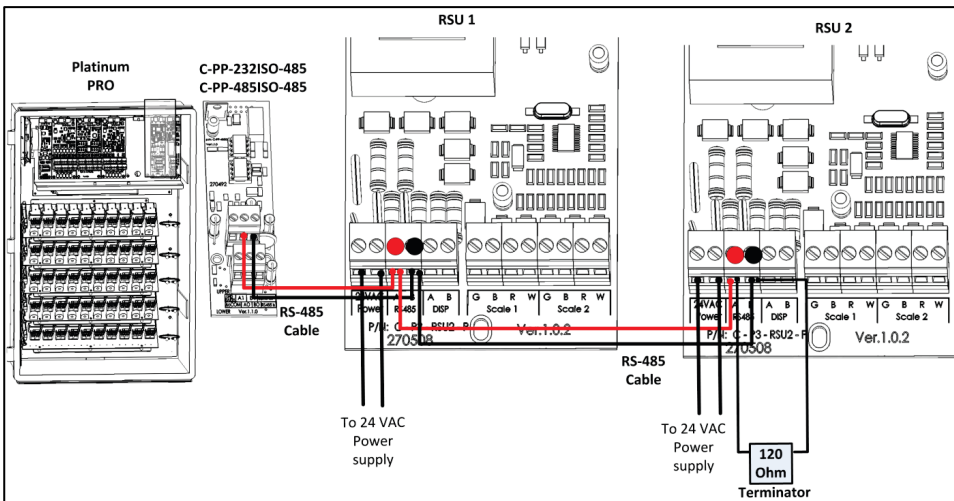

Figure 48: RSU - Controller Termination
- If an RSU unit is installed at the end of a chain, install a 120 Ohm termination resistor (supplied by Munters) (Figure 48).